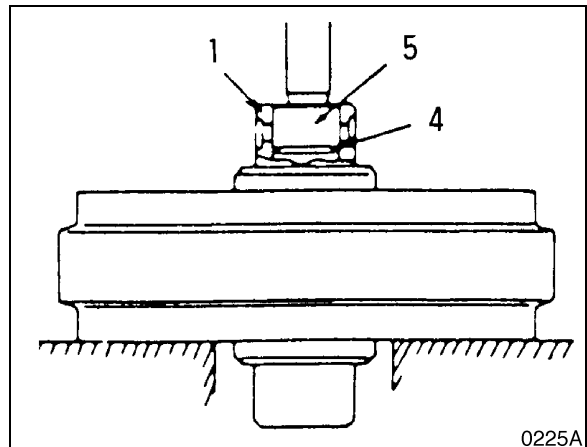

Figure 21
3. Use a press to remove the bearing from the axle. Separate the O-ring (4, Figure 21) from the axle and insert it into the bearing.